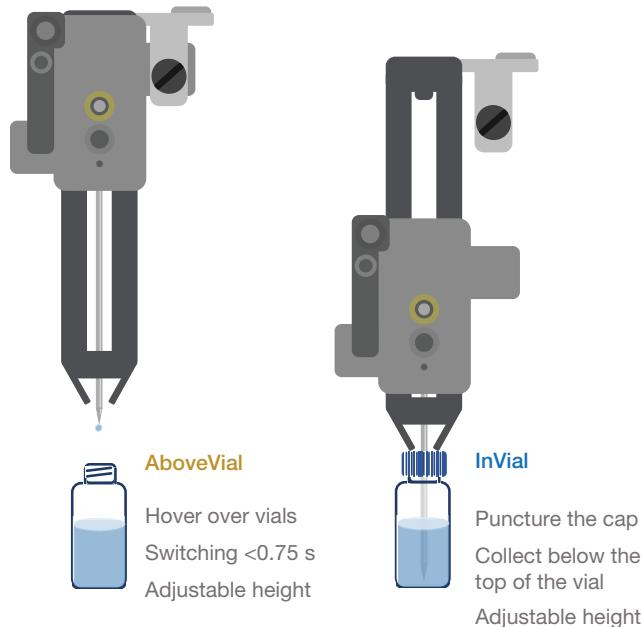

Figure 1. Two fractionation modes: AboveVial and InVial
The Thermo Scientific™ Vanquish™ Analytical Purification LC system provides high-resolution sample separation followed by precise sample purification, which is facilitated by the integrated Thermo Scientific™ Vanquish™ Fraction Collector (FC). The Vanquish FC comes with a 3-axis motion control, which enables the two collection modes—AboveVial and InVial—for flexible multi-application purposes (Figure 1).¹